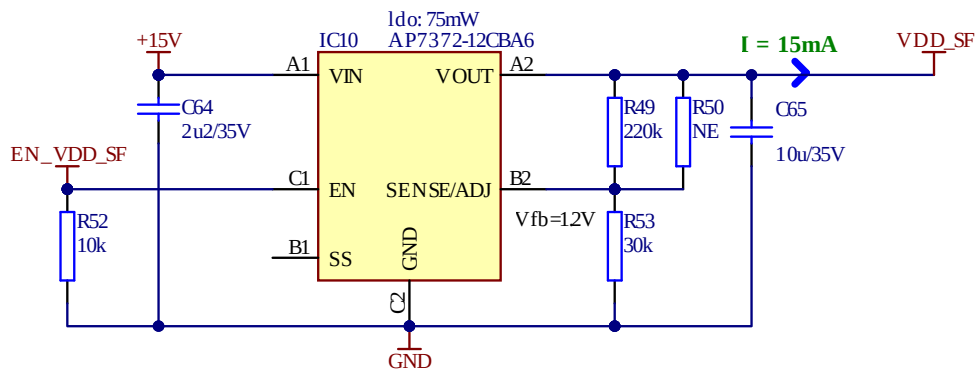

Figure 65: Source follower supply voltage circuit example
The source followers (SF) need a very low noise supply voltage of nominally 10.0 V. Figure 65 shows a possible implementation. It is to note that the GND net shall be as short as possible connected to the VSS plane of the chip in order to avoid ground noise.